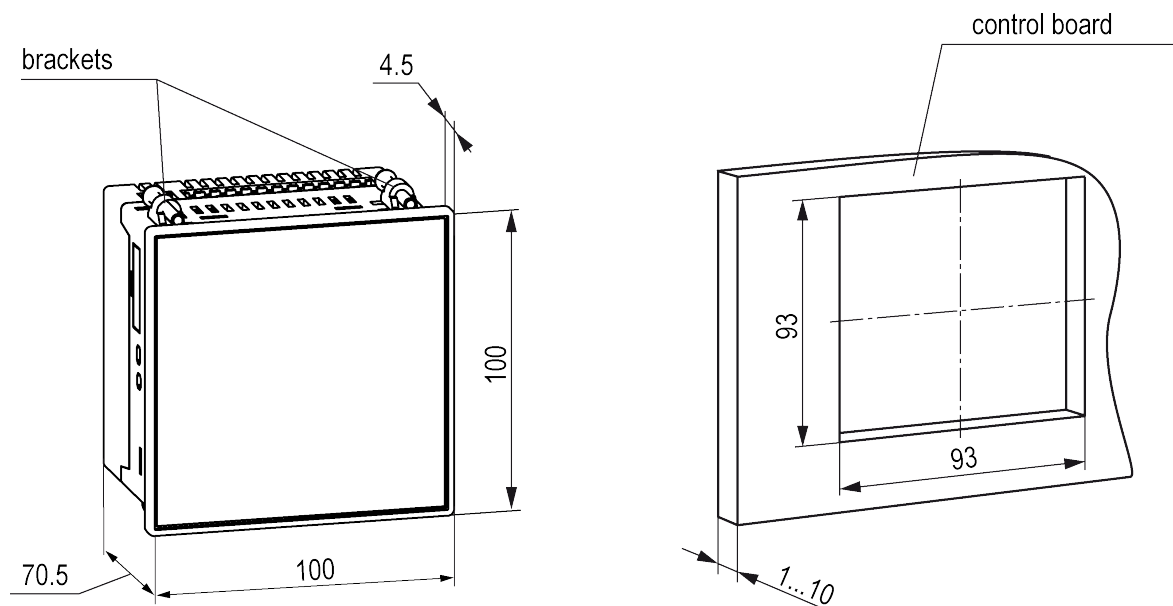

Fig. 5.2 Overall and installation cut-out dimensions
1. Prepare an installation cut-out in the control board (see Fig. 5.2).